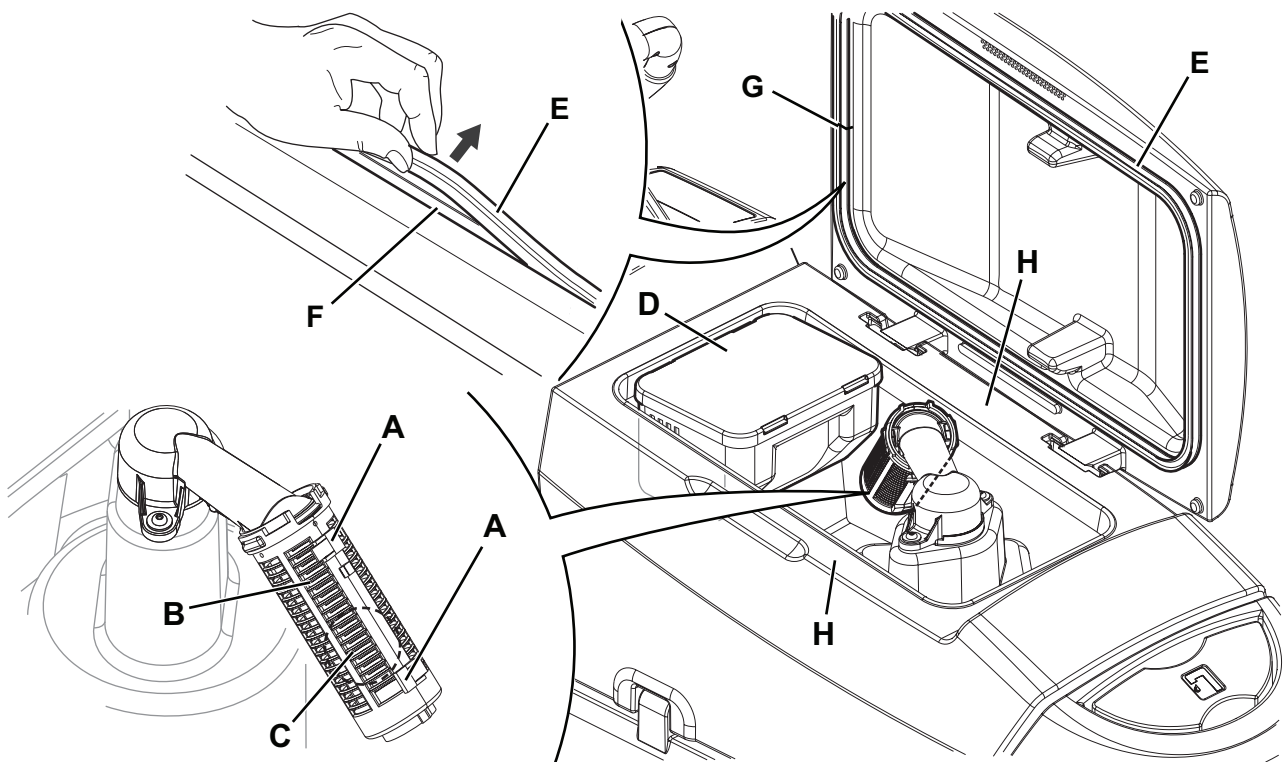

Figure 6
2. Ensure that the machine is turned off and the power supply cable plug (4) is disconnected from the electrical mains.
3. Drain the water in the tank through the hose (11).
4. Raise the cover (31).
5. Wash the inside of the tank (30) and the cover with clean water.
6. Clean the vacuum grid (28), release the fasteners (A, Fig. 6), open the grid (B) and recover the float (C) then clean it carefully and reinstall it.
7. Remove the debris collection tank (D) and open its cover, then clean it carefully and reinstall it on the vacuum hose.
8. Check the condition of the tank cover gasket (E).